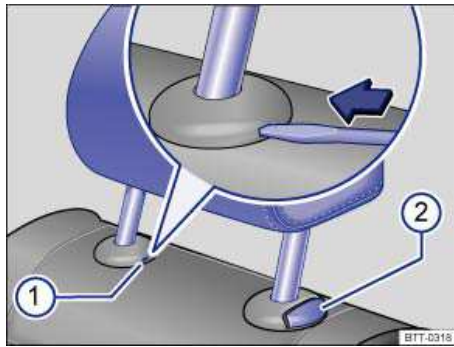

Fig. 51 Removing the rear head restraints.
- ☐ If necessary, press the flat blade of the screwdriver from the vehicle tool kit into the slit of the trim cap ⇒ fig. 51 \(1\) in the direction of the arrow and hold it in this position.